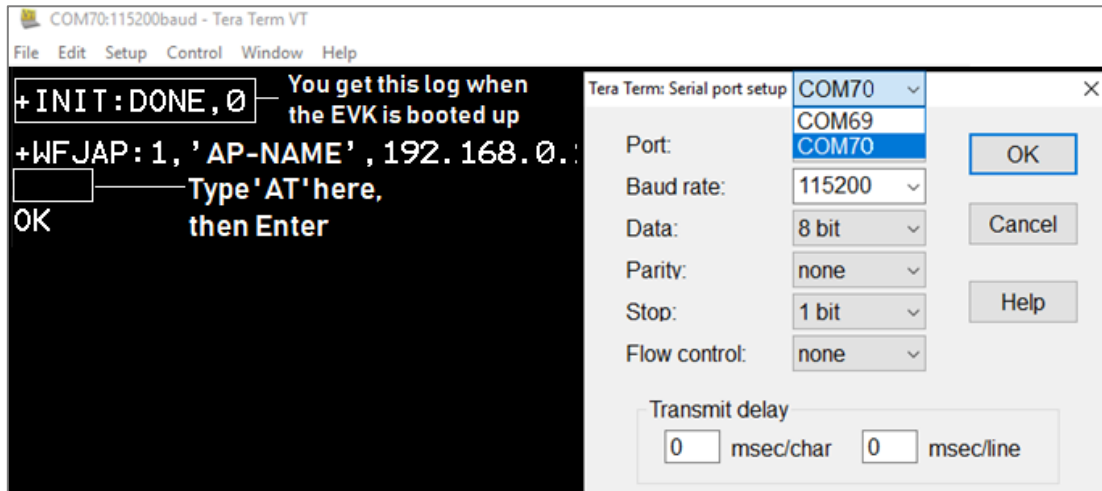

Figure 35. Initial setup to start with AT command
5. Select Setup > Serial Port and configure the UART port with the parameters as shown in Figure 35. Select the higher COM port number as discovered in step 2.